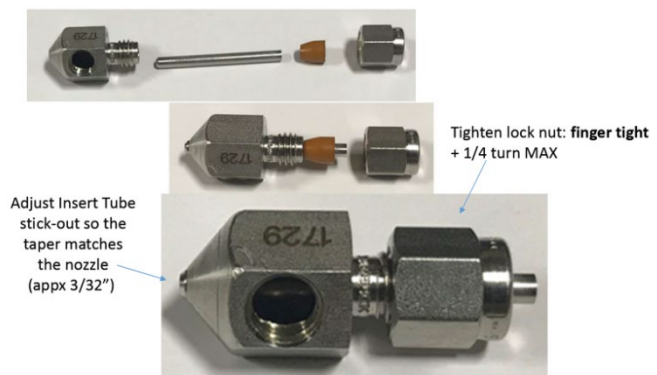

Figure 16: Reassemble Nozzle
1. Assemble nozzle. (See Figure 16)